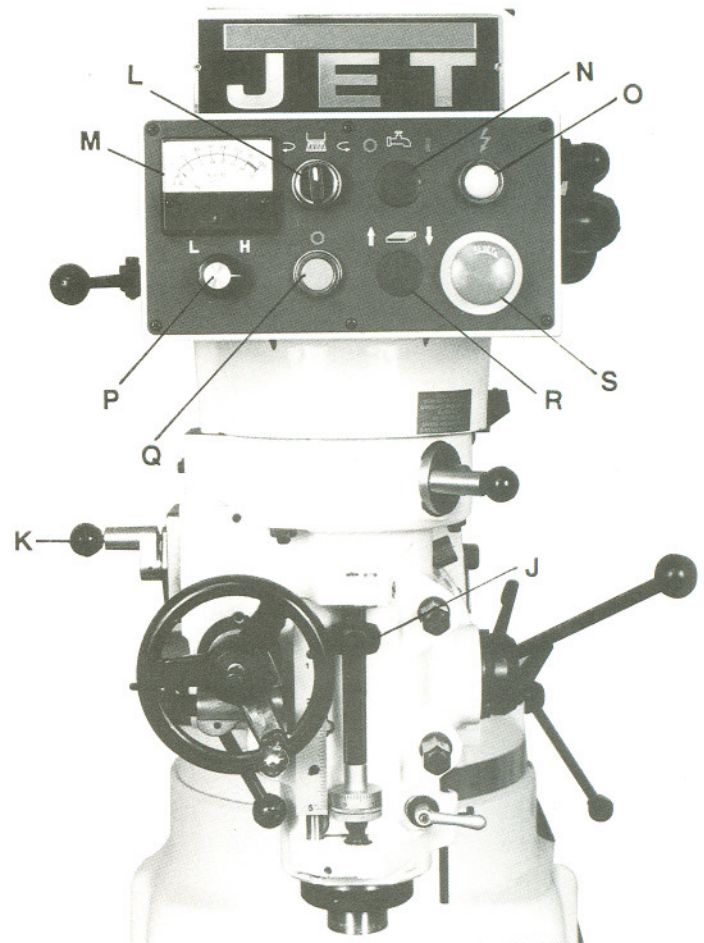

Fig.7
- J. **Quill Stop** (J, Fig. 7) - located on the front of head. Used to disengage the automatic feed in either direction as well as the setting point for working to a given depth.
- K. **Quill Feed Speed Selector** (K, Fig. 7) - located on the left side of the head. Pull knob out and locate handle over choice of three feed speeds - 1.5, .003, and .006 thousandths per spindle revolution. Feed is more readily engaged when spindle is turning.
- L. **Reversing Switch** (L, Fig. 7) - located on the left side of the head. Switches rotation of spindle.
- M. **RPM Gauge** (M, Fig. 7) - located on the control panel.
- N. **Coolant Switch** (N, Fig. 7) - located on the control panel. The switch is installed for optional coolant pump. The wiring must be hooked to U2, V2, and W2 in the terminal strip.
- O. **Power Lamp** (O, Fig. 7) - located on the control panel.
- P. **Low/High Switch** (P, Fig. 7) - located on the control panel.
- Q. **Spindle Switch** (Q, Fig. 7) - located on the control panel.
- R. **Power Feed** (R, Fig. 7) - located on the control panel. The switch is installed for optional power feed. The wiring must be hooked to 110V, OV in the terminal strip.
- S. **Emergency Stop Switch** (S, Fig. 7) - located on the control panel.